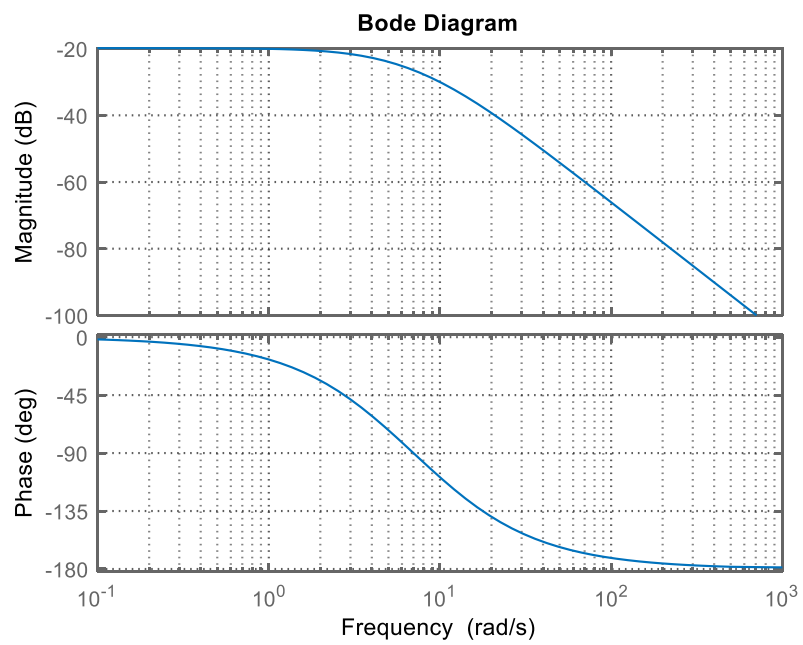

Figure 2
- (ii) Figure 2 shows the Bode plot of the plant transfer function with the same parameters, except for a higher damping coefficient, $c = 3 \text{ Nms/rad}$. Compare the likely time-domain response characteristics with those in (i).